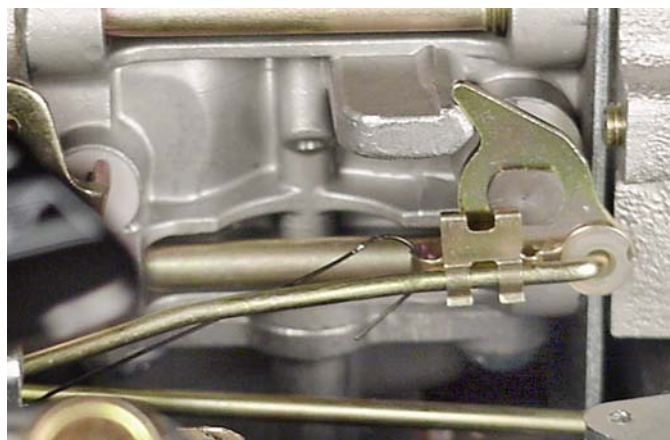

Fig. 169
9. Assemble throttle link and spring to throttle lever on carburetor, Fig. 169.